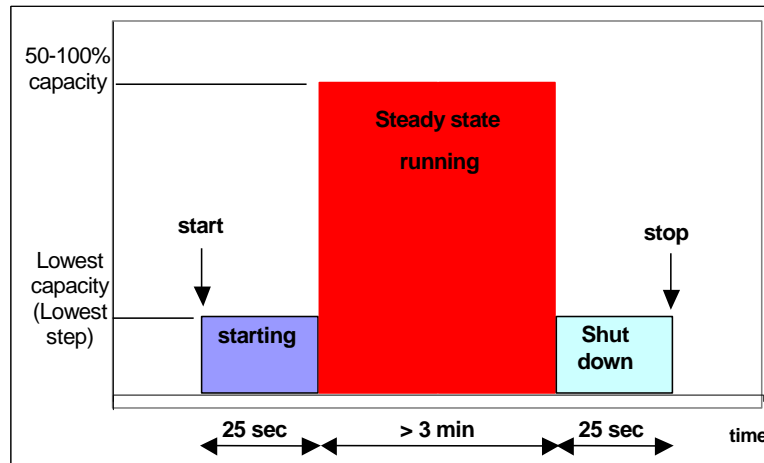

Fig. 21: starting and stopping the compressor;
To limit the peak current when starting, the electric motors are started in the part-winding configuration, or alternatively with the windings connected in the star configuration (see chapter 6: Electrical motor). This, however, means also a drop in the starting torque, and as a result the resisting torque needs to be reduced in order to start the compressor without excessively overloading the electric motor. For this purpose, SRM Tec recommends to start the compressors at the minimum capacity step, see Fig. 21.
For this reason, so as to stop and re-start the compressor at the minimum capacity step the valve (14) must be energized for around 25 seconds before switching off the compressor, see Fig. 21. Moreover the valve (14) should be kept energized during the compressor standstill periods.
The starting and stopping procedure indicated in Fig. 21 has to be followed for all the screw compressors, both in the step and in the stepless version, as this avoids noisy stopping due to the temporary reverse rotation with high mass flow.